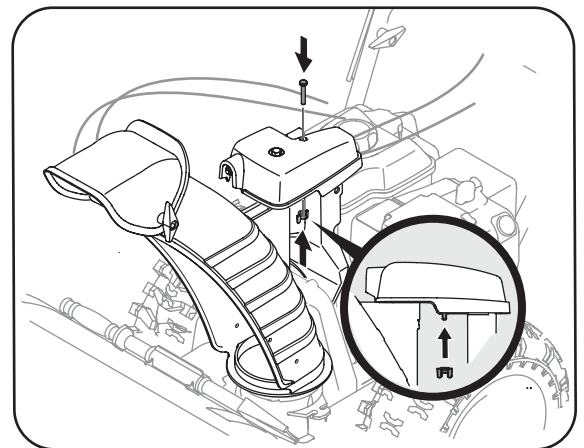

Figure 3-4
- Finish securing chute control assembly to chute support bracket with wing nut and hex screw removed earlier. See Figure 3-4.